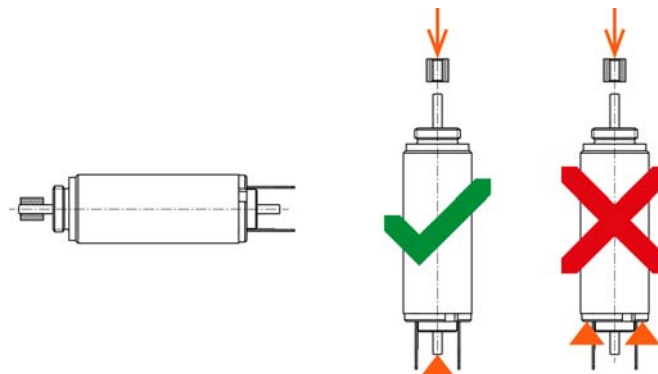

Figure 1 Assembly of Driving Elements
- Press fit connections at the motor shaft: Do not apply any axial load to the motor shaft (→Figure 1).